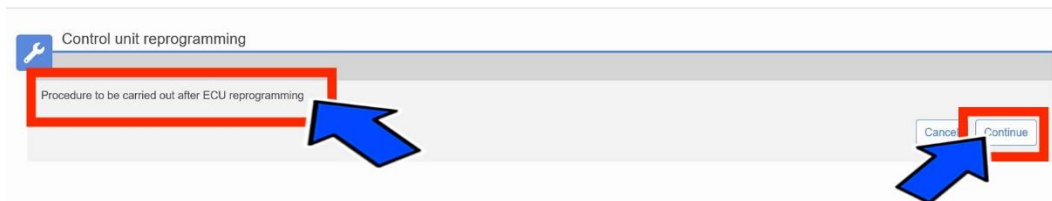

Figure 33 - Procedure to be Carried Out After ECU Reprogramming
- Select “Procedure to be Carried Out After ECU reprogramming” and then click “continue” (Figure 33).